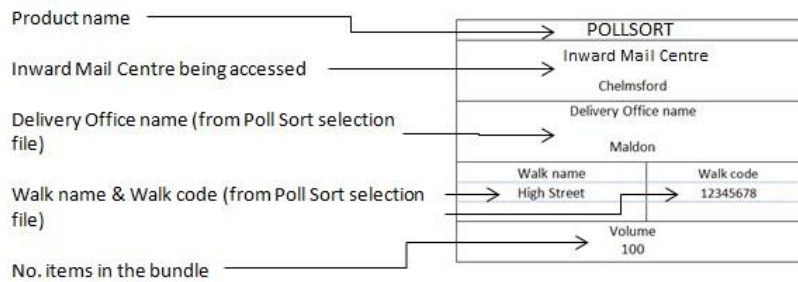

Figure 58: Poll Sort bundle label
- Tray labels and York cards must clearly be identified as poll sort. Examples of labels are shown below in Figures 58 to 61.